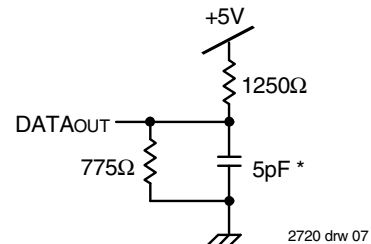

Figure 2. Output Test Load
1. Transition is measured 0mV from Low or High-impedance voltage with the Output Test Load (Figure 2).
1. Transition is measured 0mV from Low or High-impedance voltage with Output Test Load (Figure 2).